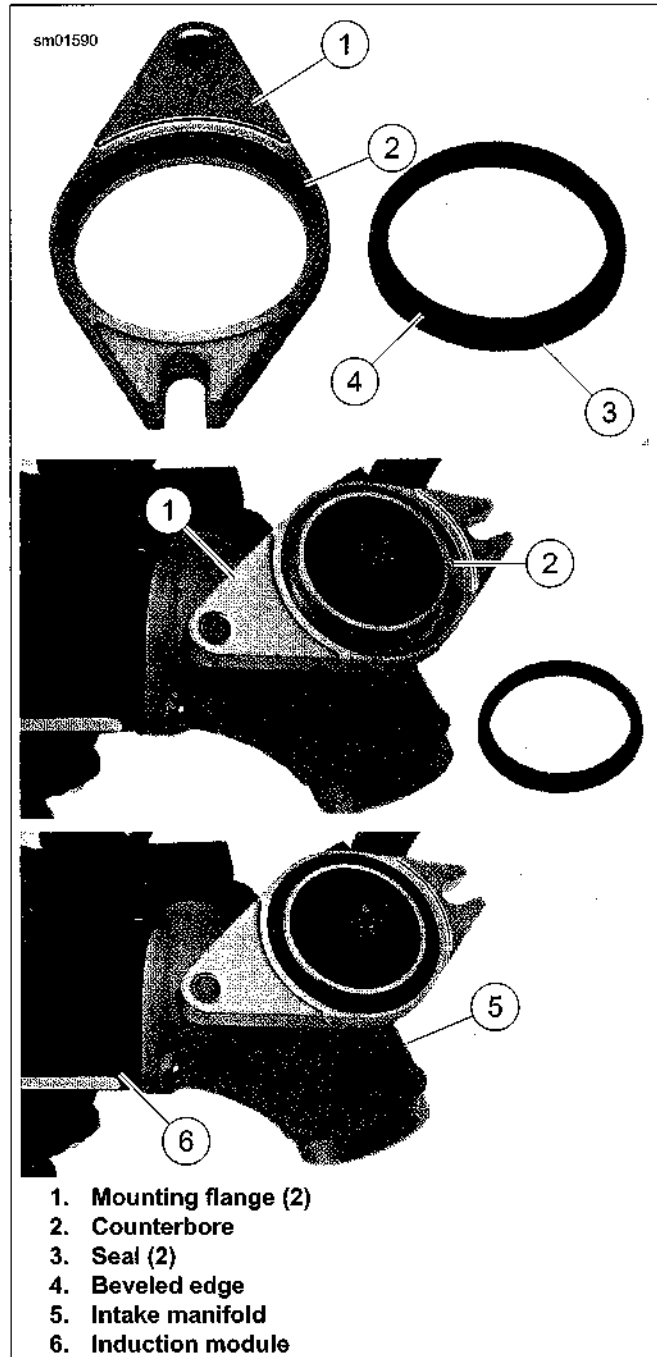

Figure 4-24. Installing Mounting Flange and Seal
2. See Figure 4-24. Install mounting flanges (1) on intake manifold (5) with counterbore (2) facing away from manifold and open slotted ends of flanges facing away from induction module (6).
3. Place a **new** seal (3) into each mounting flange with the beveled edge (4) facing the mounting flange counterbore.